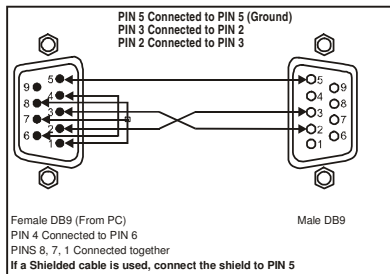

Figure 6: Connecting a PC without using a Null-modem Adapter
- Connect the RS-232 DB9 port on your PC to the RS-232 DB9 rear panel port on the Master **VS-42HC** unit, as Figure 6 illustrates